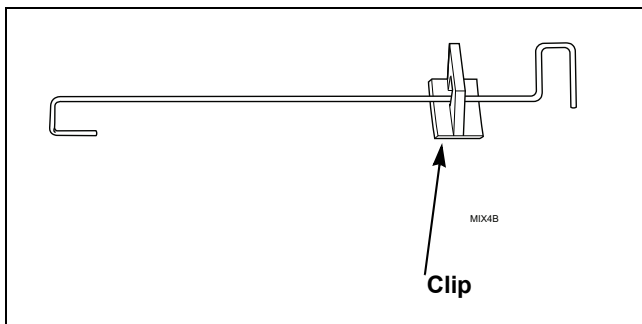

Figure 16
9. Remove clip from spring. Refer to *Figure 16*.